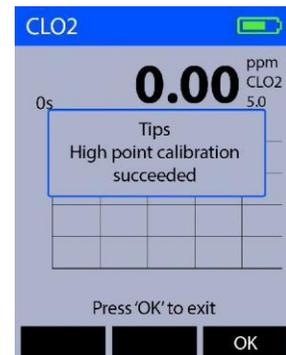

Figure 15.
8. The message “High point calibration succeeded” will appear on the display (Figure 15).
9. Press (OK) to exit.